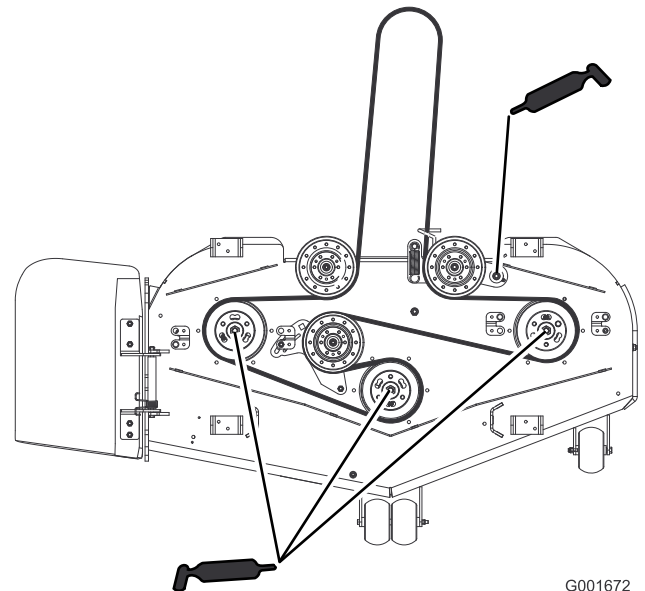

Figure 27
4. Grease the three spindle bearings under the pulleys until grease comes out the lower seals (Figure 27).
5. Grease the idler arm on the mower deck (Figure 27).